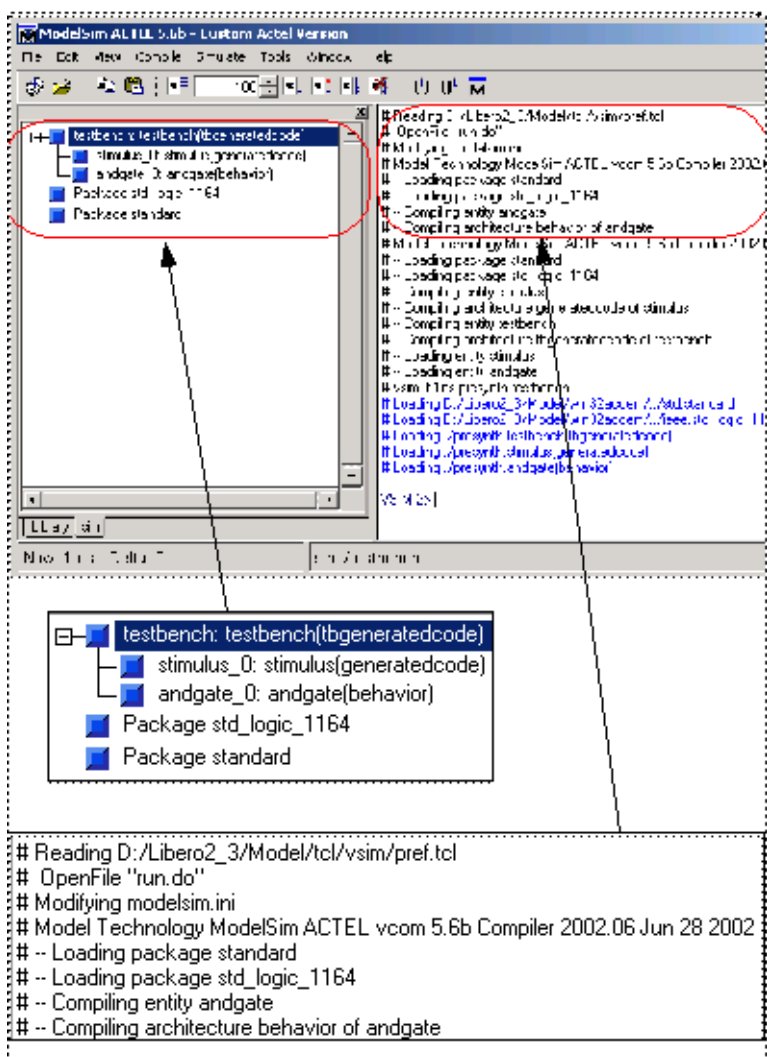

Figure 5-14. ModelSim Main Window
5. The ModelSim VHDL simulator opens and compiles the source files as shown in Figure 5-14.